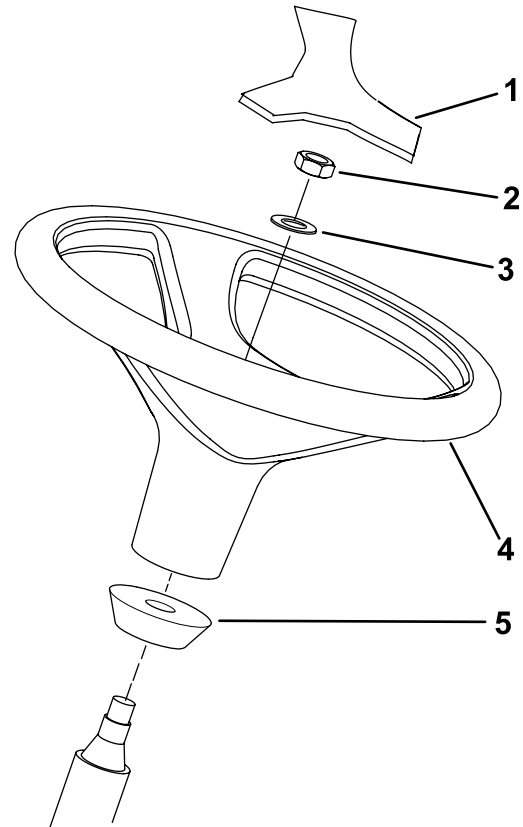

Figure 13
1. Remove the steering wheel from the shipping skid (Figure 13).
Note: Ensure that the foam collar remains on the steering shaft (Figure 13).
- Slide the steering wheel and washer onto the steering shaft (Figure 13).
- Mount the cover to the steering wheel (Figure 13).